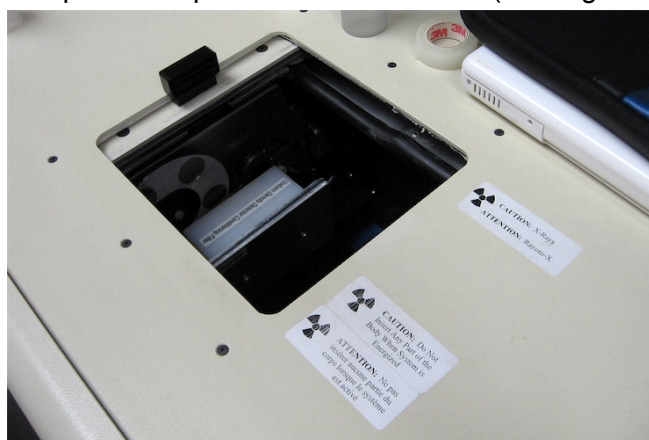

Figure 4: Top Hatch of MS Scanner
7.4.2.1. Open the top hatch of the scanner (see Figure 4).